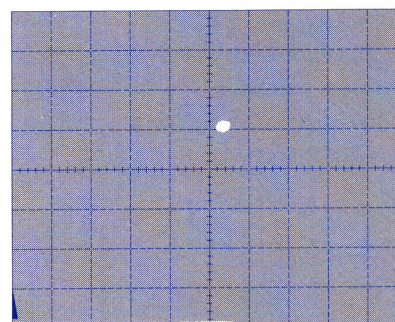

Figure 5-2. Display of forward voltage V_F at greater horizontal sensitivity.
- 4) Increase horizontal sensitivity — If possible, turn HORIZ VOLTS/DIV cw to increase sensitivity, but keep intersection of specified vertical graticule line and trace on screen. See Figure 5-2. **22**